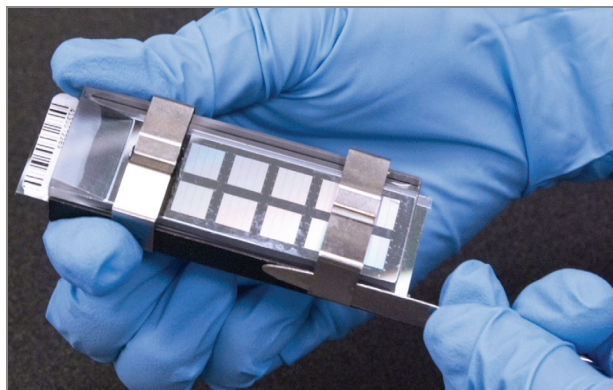

Figure 68 Removing Metal Clamps from Flow-Through Chamber
- a. Use the dismantling tool to remove the two metal clamps (Figure 68).